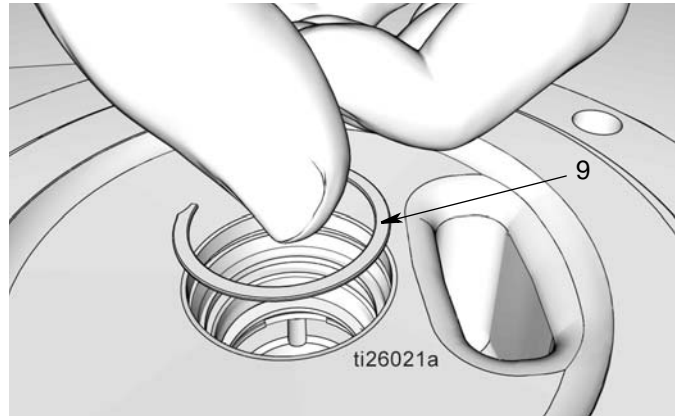

FIG. 39
- j. Install clip (9) (FIG. 39). You should hear a “click” when the retaining clip is correctly seated in the groove.